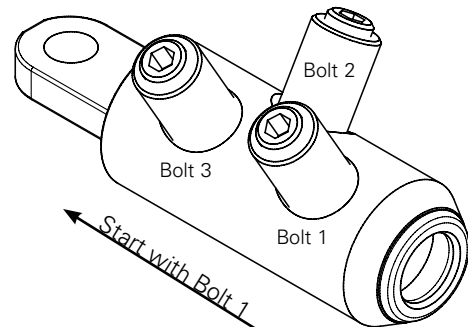

Figure 11. Mechanical lug tightening sequence.
- With an Allen hex key as specified in Table 1 screw in bolt No. 1 until it breaks off smoothly. Proceed with bolt No. 2 in a similar way. If the lug has more than two (2) bolts, continue with bolt No. 3 and bolt No. 4, (not shown in Figure 11). See Figure 11 for tightening sequences.